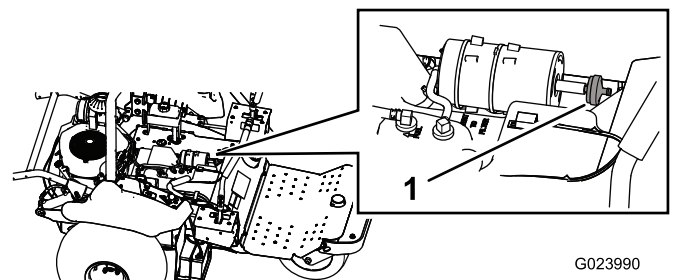

Figure 46
- Disconnect the filter from the carbon canister (Figure 46).